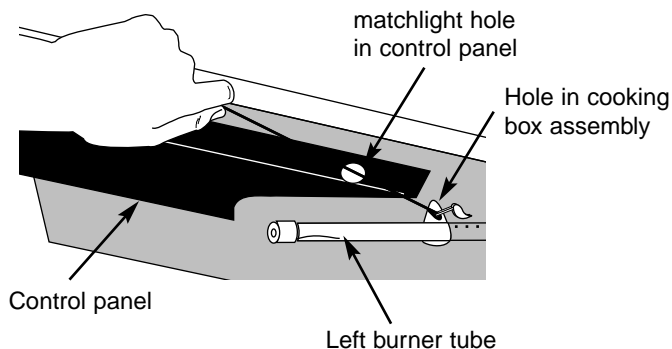

Figure 3
- 6) Insert match holder and lit match through matchlight hole to ignite LEFT burner. Figure 3.